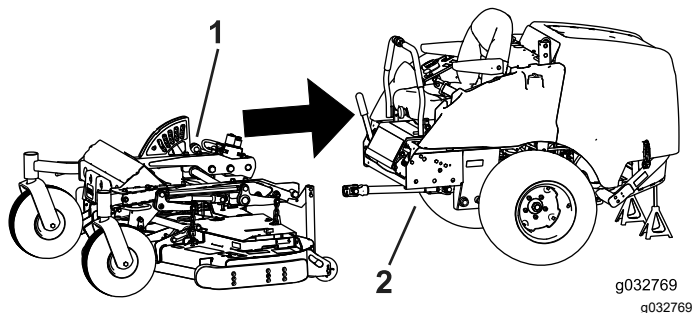

Figure 119
1. Align the summer frame to the machine frame and roll it back (Figure 119).